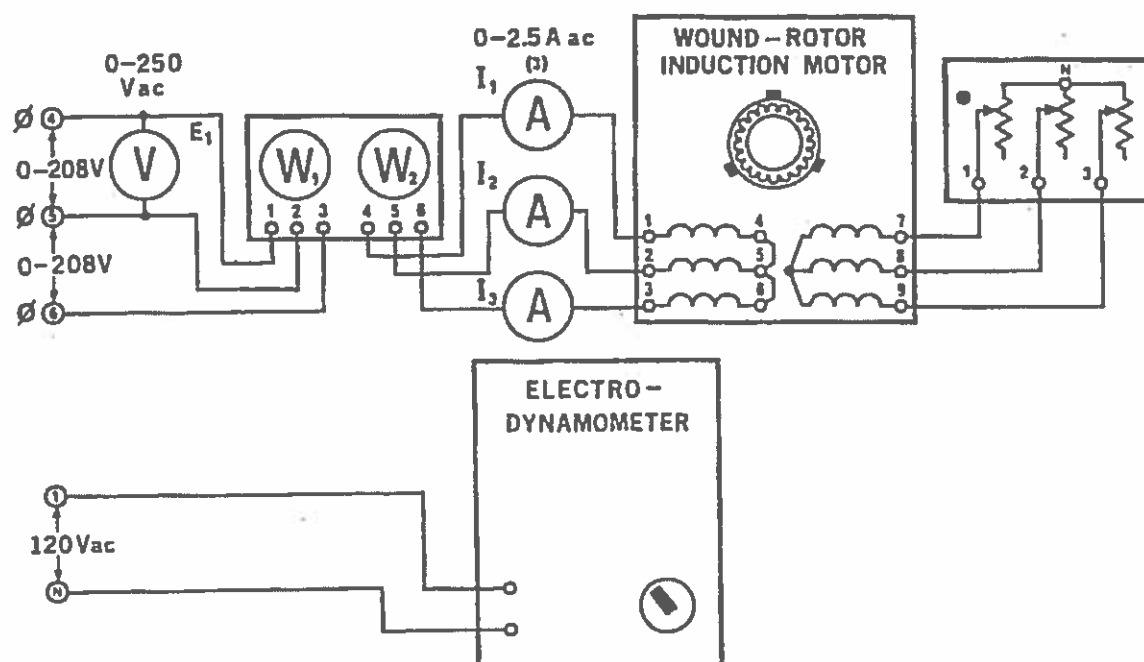

Figure 51-1.
- ☒ 2. Using your Three-Phase Wound-Rotor Induction Motor, Electrodynamometer, Single-Phase Wattmeter, Three-Phase Rheostat, Power Supply, AC Ammeter and AC Voltmeter, connect the circuit shown in Figure 51-1. Do not couple the motor to the electrodynamometer at this time!